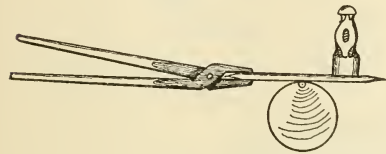
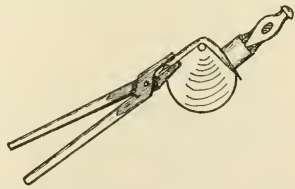

FIG. 176.—BENDING STAPLE AT MIDDLE POINT.
FIG. 177.—BENDING THE STAPLE OVER THE HORN OF THE ANVIL.
2. **Bending.**—When both ends have been drawn out, heat the iron and bend it at the middle point, holding it as in Fig. 176, and striking not above the horn of the anvil, but just beyond it. As the iron bends, continue striking it, holding as in Fig. 177.